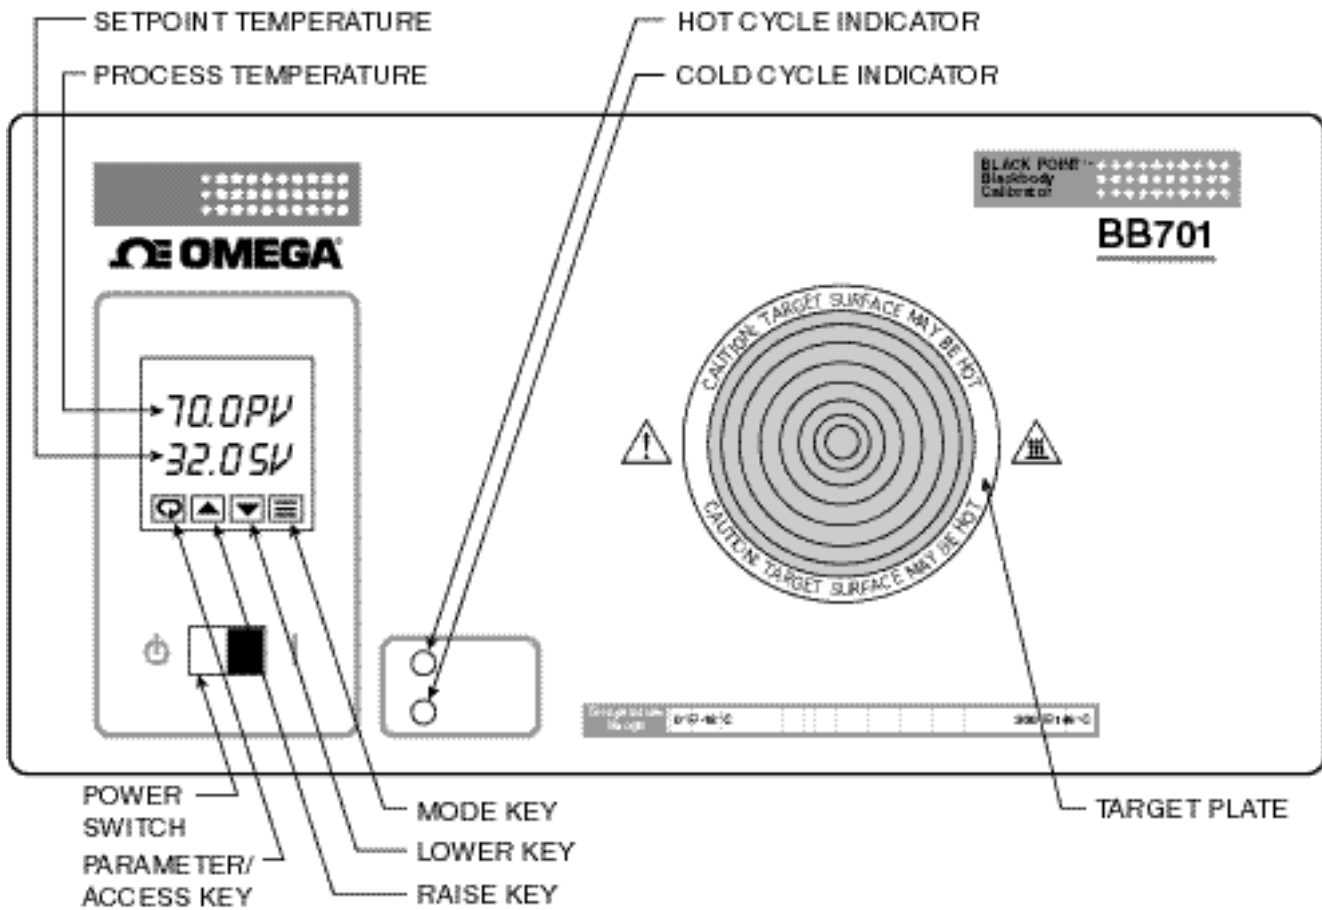

Figure 3. Front Panel
The layout of the front panel is shown in Figure 3. The BB701 incorporates a PID digital setpoint controller. The upper display indicates the blackbody target plate temperature known as (PV) Process Variable, while the lower display indicates the programmed setpoint known as (SV) Setpoint Variable. Making changes to the setpoint, units can be made via the  and  keys. Holding a key in, continuously, will cause the setpoint temperature to advance more quickly to a desired value. Three scanning speeds are provided: slow, medium and fast. The minimum and maximum setpoints are locked at 0 and 300°F, respectively. While these max. and min. settings are changeable (see "Changing the Internal Parameters," Section 3.4), it is strongly advised not to adjust these parameters.